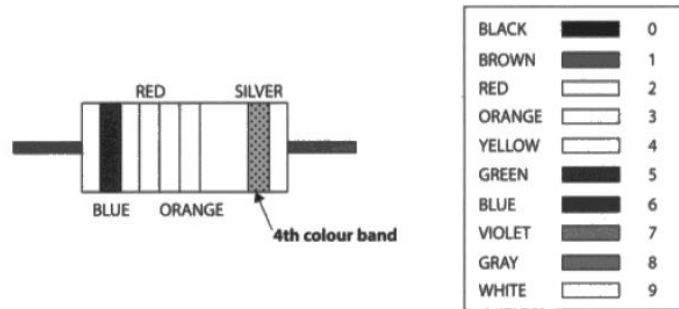

Figure 3
- (i) State the value of the resistor in Figure 3 using the first three colour bands. (1)
- (ii) State the reason for the fourth colour band on the resistor in Figure 3. (1)